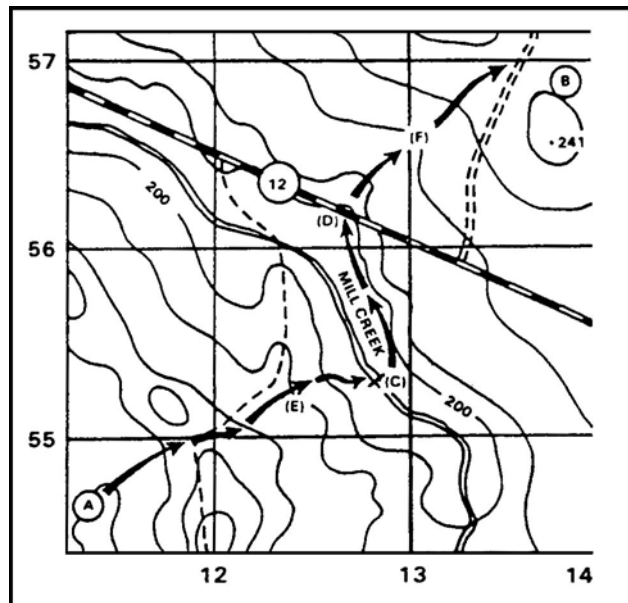

Figure 2. Adjusted route
- (1) Tactical aspect. Avoid skylining open areas and danger areas like streams or crossings on roads and hilltops. Your tactical concern is survival. The mission is causing you to move to your objective. You need to be sure you get to that objective. Looking at Figure 2, you decide for tactical reasons to cross the stream where you would not be seen from the road (C) and to cross the road in a small valley (D). You know that valleys offer better cover and concealment, so you will use them (E) (F).